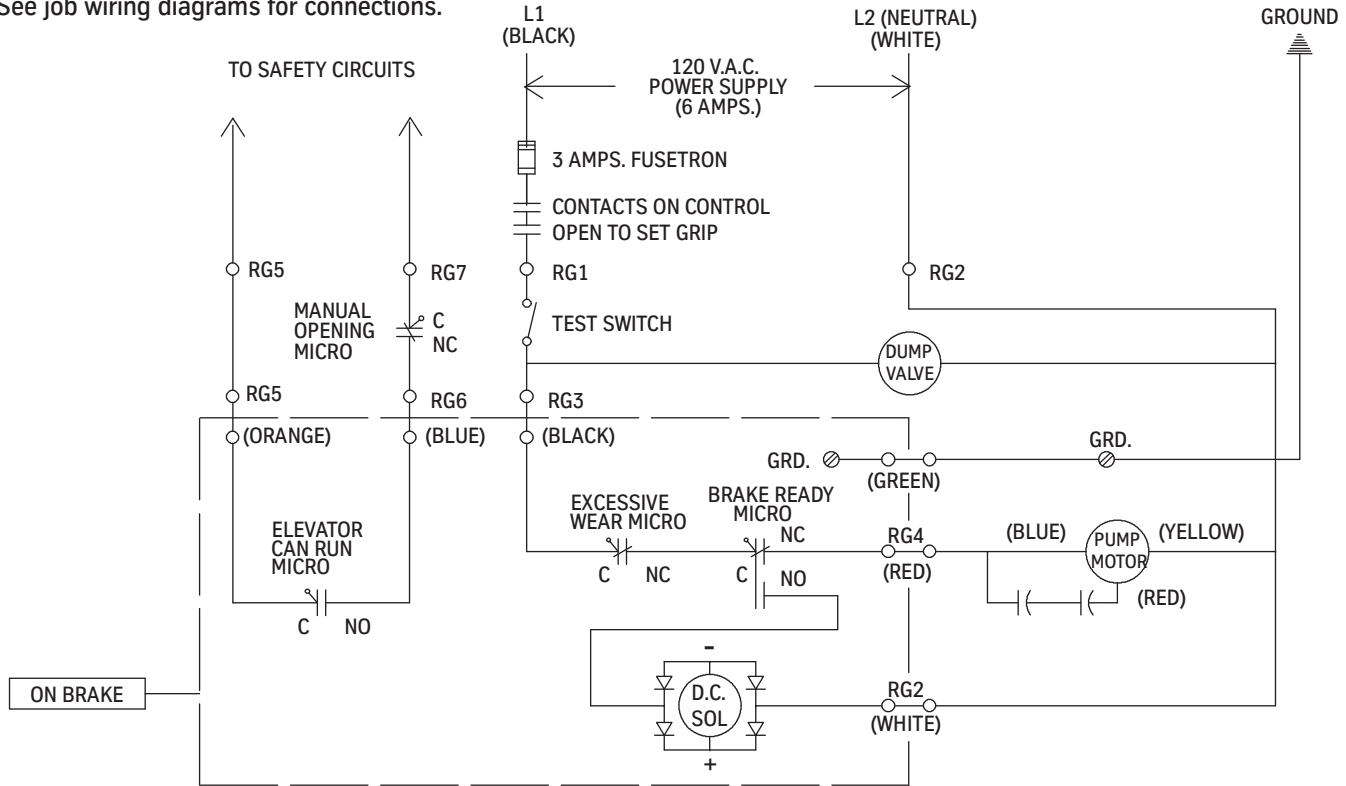

Figure 3 - Controller Wiring Diagram
14. Connect terminals RG1, RG2, RG5, and RG7 to the elevator control. Check the control diagram for the proper connections. See Figure 3.